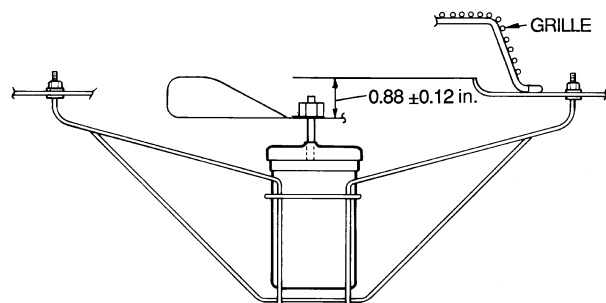

Fig. 35 — Condenser-Fan Adjustment
4. Adjust fan height on shaft using a straightedge placed across venturi and measure per Fig. 35.